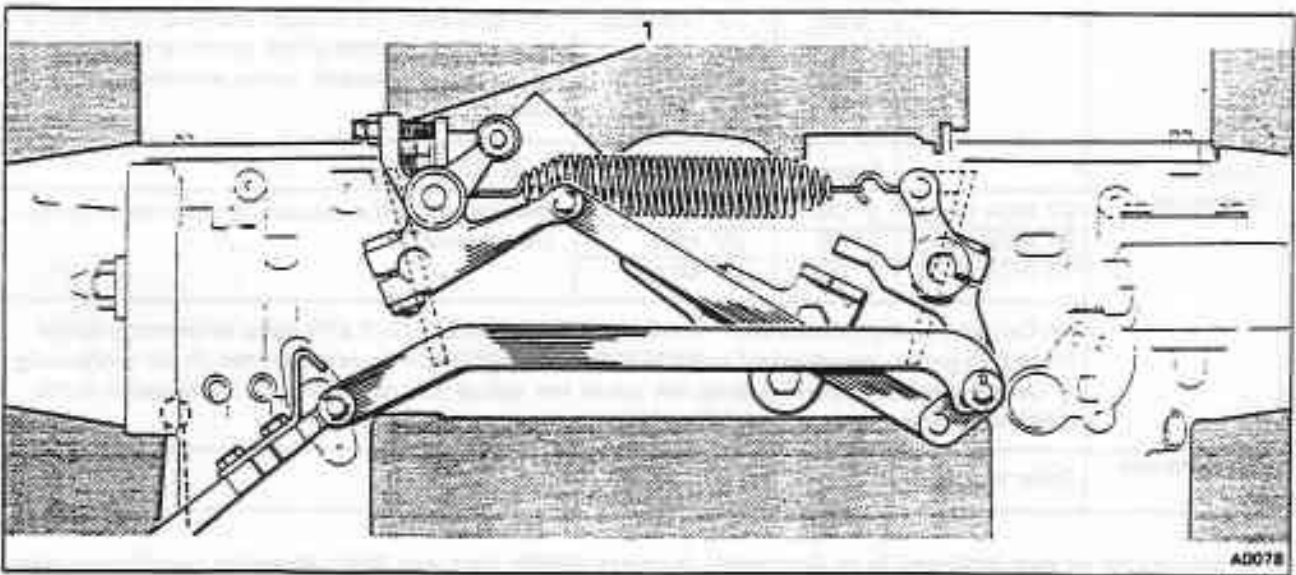

Fig. M5-3 Carburettor throttle linkage
- 6. Start the engine and set the engine speed to 2200 rev/min by adjusting the idle stop screw (see fig. M5-3). The speed should be set by approaching 2200 rev/min from a higher speed.
14. Start the engine and adjust the idle speed to 650 rev/min by adjusting the idle stop screw (see fig. M5-3).